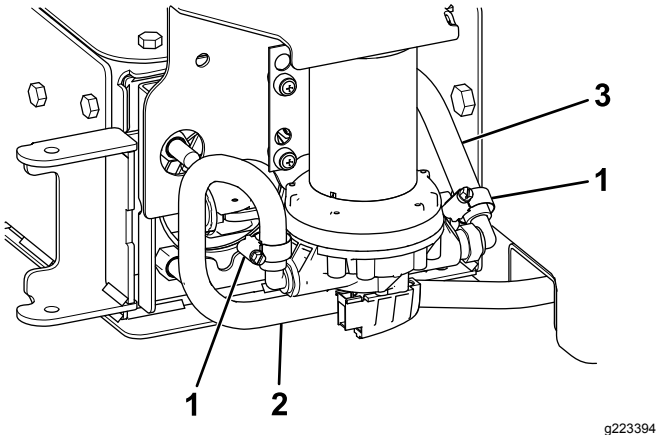

Figure 29
9. Secure the 45 cm (18 inch) hose from the spray nozzle to the hose fitting on the right side of the pump with a hose clamp (Figure 29).
10. Secure the 1.2 m (48 inch) hose to the hose fitting on the left side of the pump with a hose clamp (Figure 29).
11. Route the hose under the frame rail, toward the filter (Figure 29).